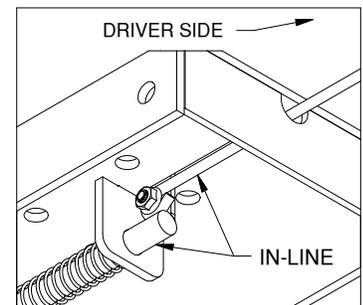

Figure E2.
3. **Secure handle.** Secure the handle to the pin with the 5/16" X 3/4" carriage bolt and 5/16" locking flange, see Figure E2. Note: The included 5/16" cap screw can replace the carriage bolt if wrench access on the "cab side" of the handle is limited. Tighten the nut until it is secure. When tightening the handle, position it so that it will not rub on the center, the side plate, the bed flange, or the liner. Retract and release the handle slowly to make sure it will not hang up on any obstacles that may prevent the latch pin from fully engaging the socket. Do not over-tighten and deform the handle eyelet.